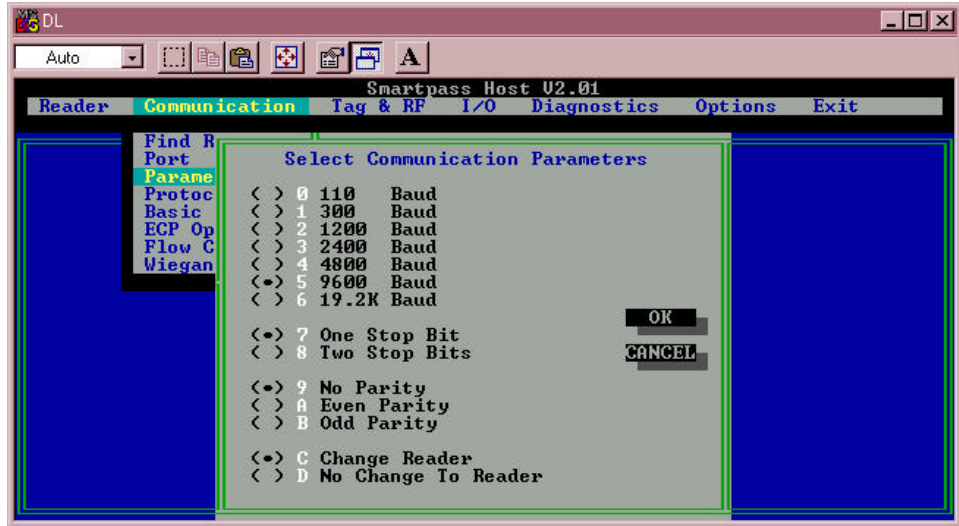

Figure 4-24 Port Configuration Parameters Dialog Box
1. Select the **Communications** drop-down menu and click the **Parameters** option. Figure 4-24 illustrates the options for port configuration parameters.